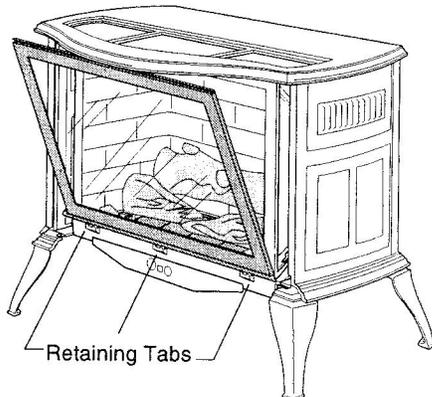

Figure 53. Engage the lower lip of the glass frame behind the retaining tabs at the bottom of the firebox.
4. Replace the frame on the front of the firebox and secure with the two latches. Fig. 53.